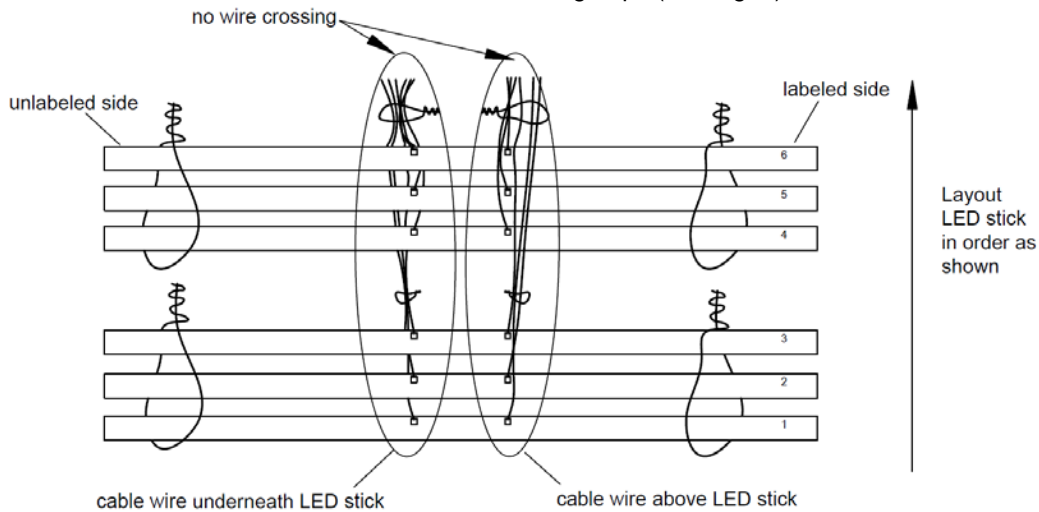

Fig. 2
7. Adjust these wires in such that wire cables near labeled end are **ABOVE** the LED stick and the other end are underneath all LED stick (as shown in Fig. 2).
8. Make sure there is **NO WIRE CROSSING** between wires groups (see Fig. 2).